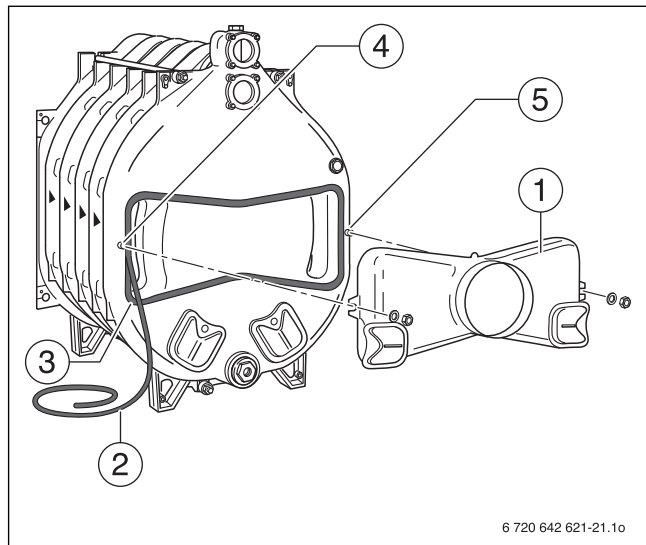

Fig. 28 Fitting the draft diverter
KM ropes (Fig. 28, [1]) are used to seal the connections between the boiler and the draft diverter (Fig. 28, [2]).
- ▶ Push the KM ropes firmly into the groove. Insert the sealant rope in such a way that the joint is in the side part of the groove (Fig. 28, [3]).
- ▶ Place the draft diverter onto the two threaded studs on the rear section (Fig. 28, [4 and 5]) and secure using washers and nuts.